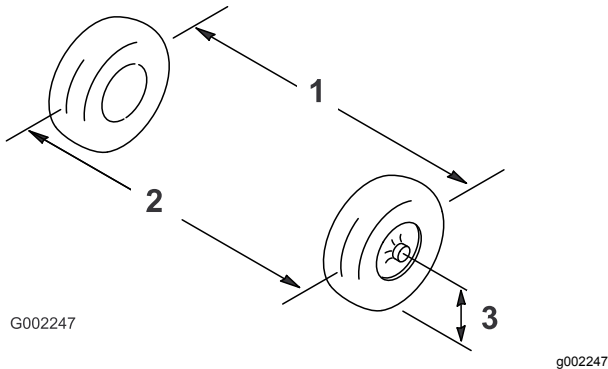

Figure 69
2. Measure the distance between both of the front tires at the axle height at both the front and rear of the front tires (Figure 69).